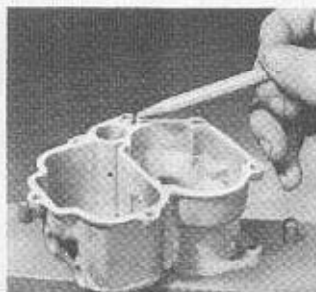

Fig. 31
**39** If main body has a raised shoulder around hole for accelerating pump rod, as shown in Fig. 31, remove shoulder with a file. This shoulder if not removed will shorten effective stroke of accelerating pump.